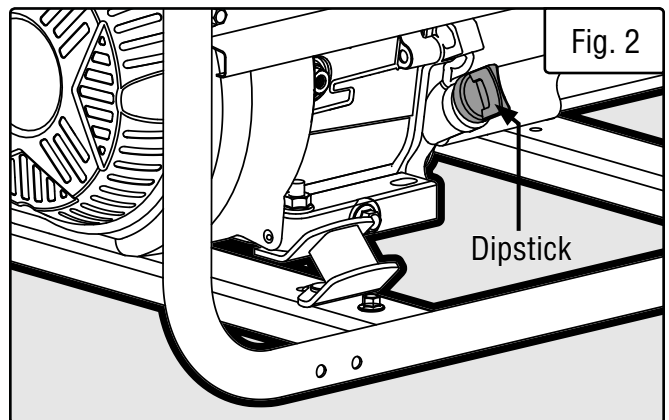

Fig. 2
2. Unscrew the oil dipstick (Fig. 2) from the engine.